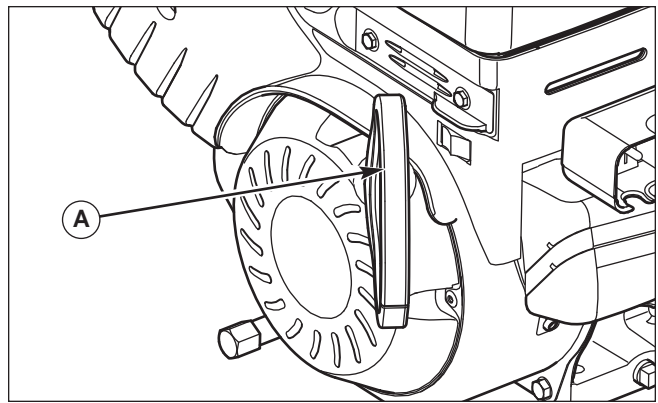

**Figure 4. Safety Key, Choke, and Primer Button**
4. Insert the engine key (A, Figure 4) into the engine key slot and push fully in to the RUN position.
5. Turn the choke knob (B) fully clockwise if engine is cold.
6. Push the primer button (C) two times.